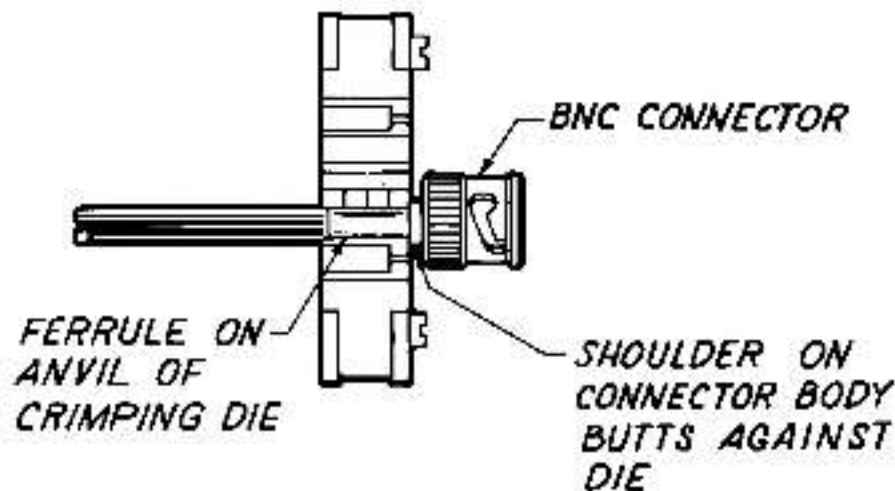

Figure 4.2.3.1.3 Crimping Ferrule
6. Crimp the ferrule using 45C73 crimp tool. (See figure 4.2.3.1.3)